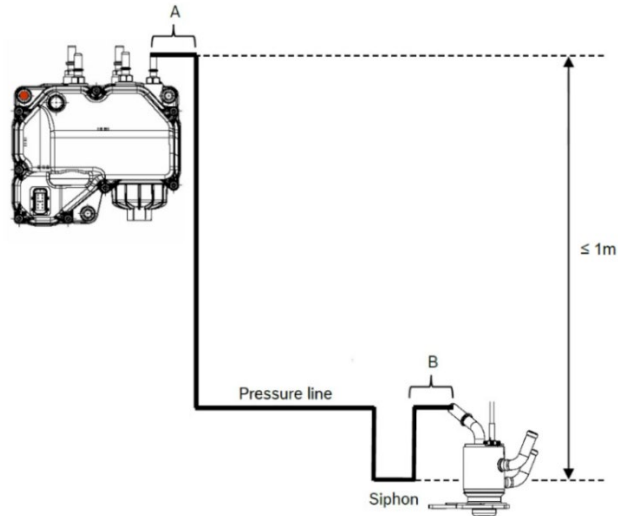

Figure 7-29. Layout: Dosing module below supply module
- In Figure 7-29, the DM is installed below the suction module. An appropriately sized siphon must be integrated close to the DM, coupled by an angled line connector pointing downwards towards the hydraulic connector of the DM. This can be achieved by using a rectangular connector. The section A and B should be as short as possible. The pressure line must be routed downwards from the SM connector (angled line connector recommended). If that is not possible, an additional siphon is needed at the SM.